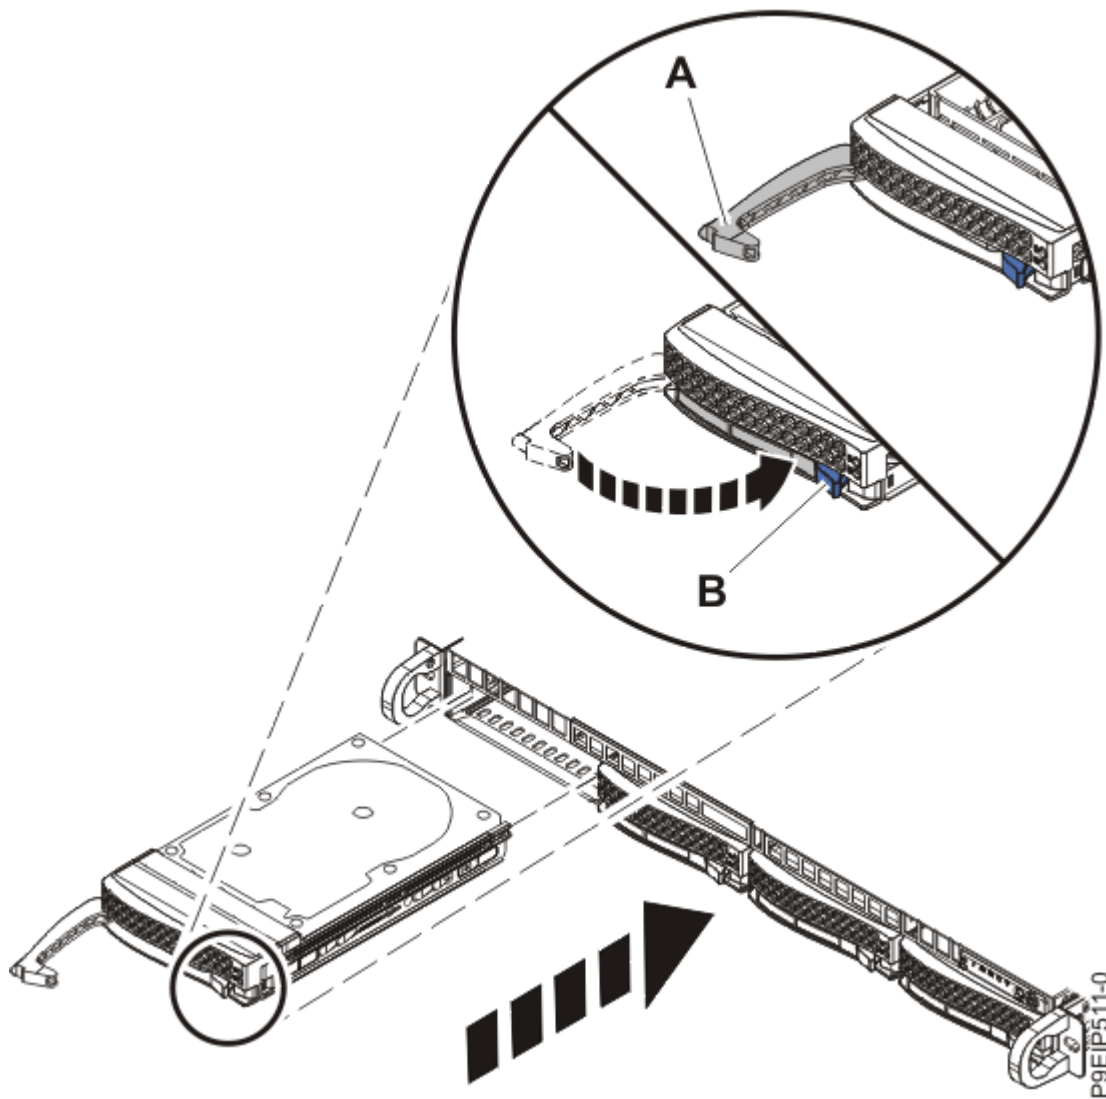

Figure 8. Disk drive lock detail
4. Lock the drive bay handle **(A)** by pushing in the handle release until it locks at **(B)** as shown in Figure 8 on page 11.